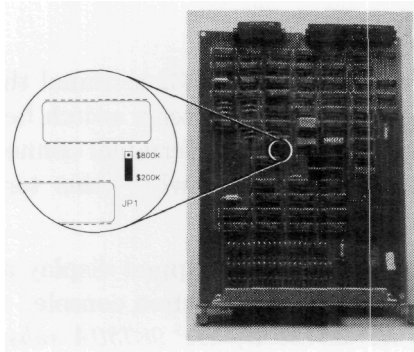

Figure 5-57.
- b. The jumper JP1 determines the memory location for the card's control space in DIO-I. The default position of JP1 is shown in Figure 5-57.